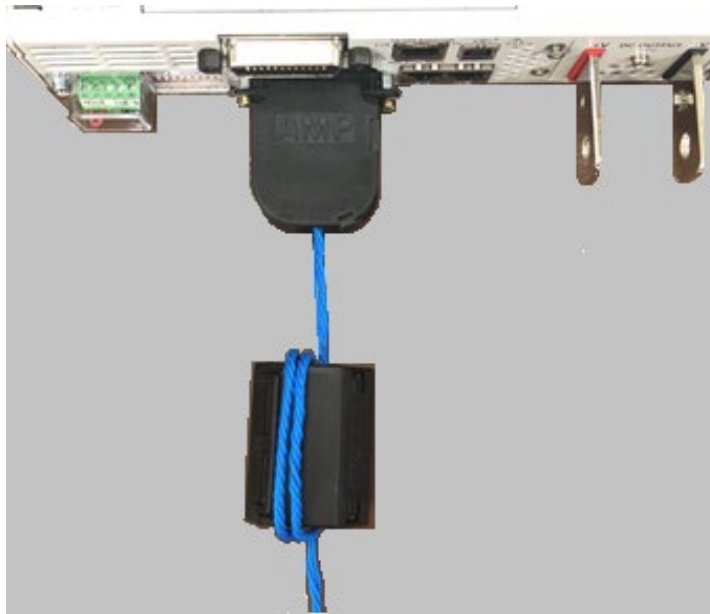

Figure 1
Step 2 Pass the analog cables through the core with 3 wire turns. Refer to Figure 1 below.